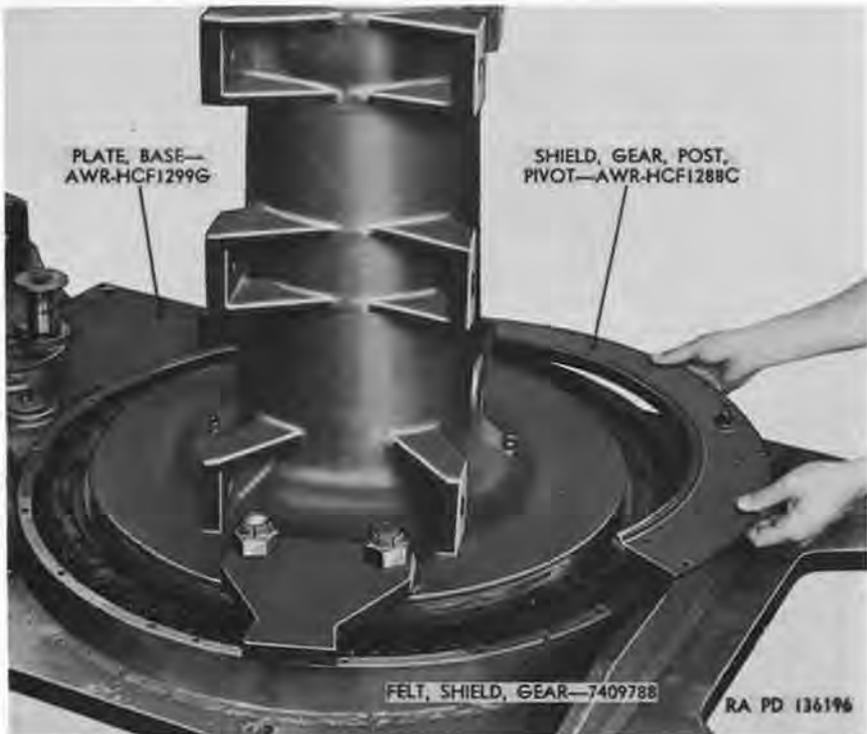

Figure 43. Removing pivot post support cap and spacing shims.
- (2) Remove two hex nuts, external-teeth lockwashers, plain washers, and locking plates, and six safety nuts which secure pivot post support cap. Remove pivot post support cap and spacing shims (fig. 43). Keep shim pack intact for assembly.